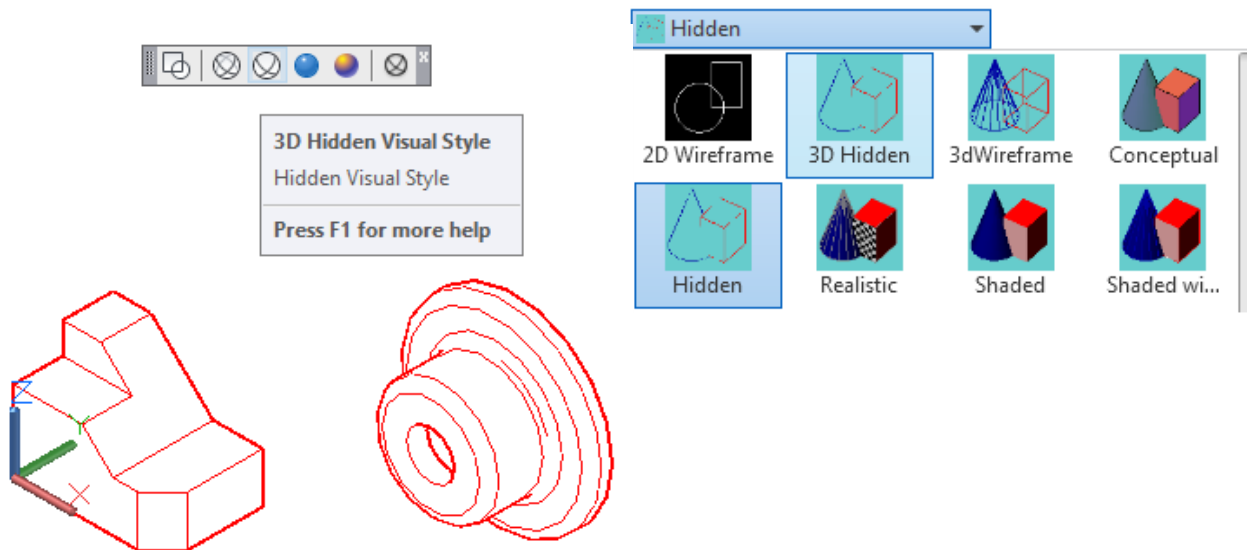

Figure Step 9
Step 9 Click the 3D Hidden visual style icon. Note how when the current visual style is 3D Hidden, the model appears solid and only displays the visible objects. (Figure Step 9)